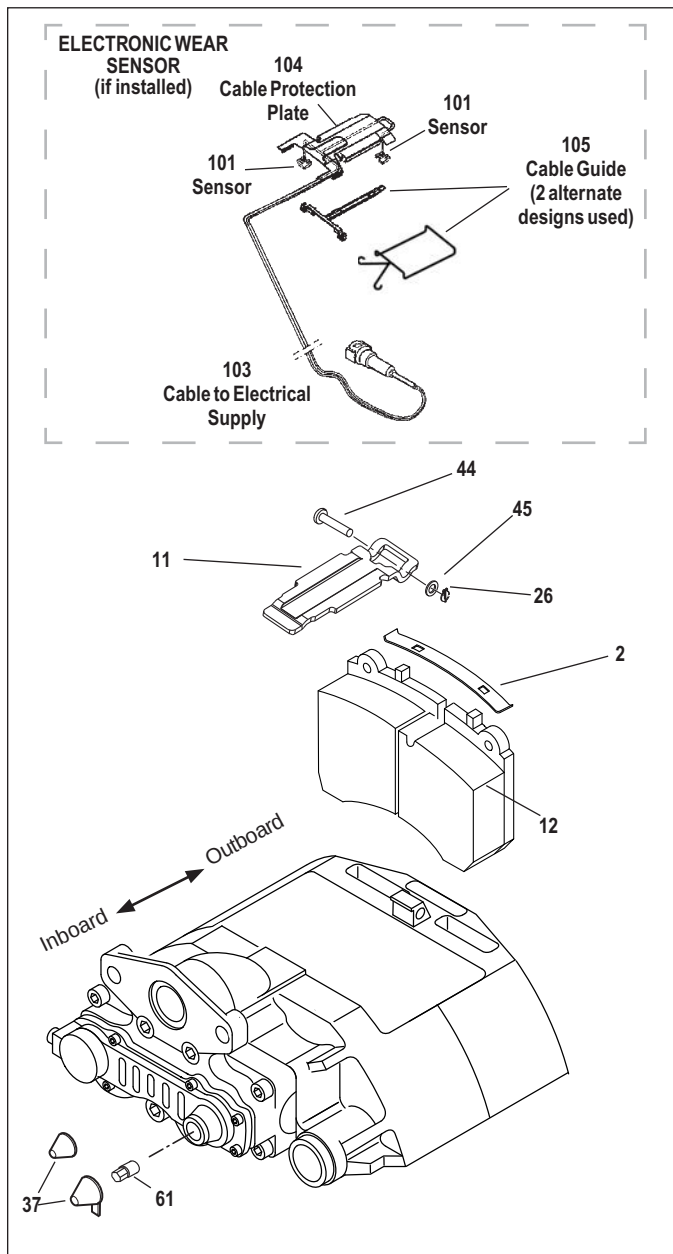

FIGURE 33 - PAD REPLACEMENT
5.2.3 If the air disc brake is equipped with an electronic wear sensor indicator (see top of Figure 33), remove